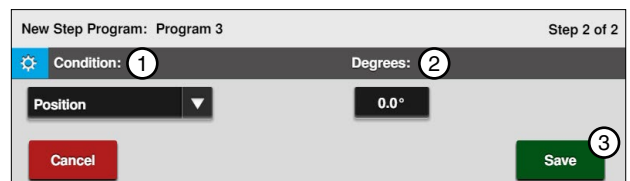

Figure 135-3 1. Position Condition 2. Degrees 3. Save
3. Program the position condition for this step. Refer to Figure 135-3.